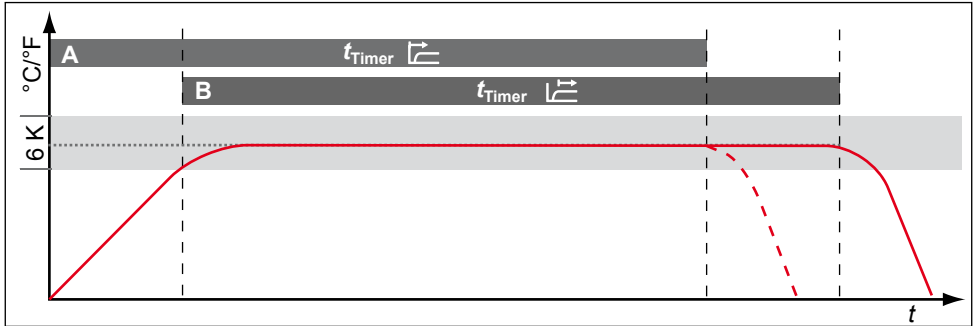

Fig. 22 Timer Mode
For universal ovens UN/UF and incubators IN/IF, you can choose whether the digital backwards counter with target time setting (see page 26) should run setpoint-dependent or not – this determines if the timer should not start until a tolerance band of $\pm 3\text{ K}$ around the set temperature is reached (Fig. 22, B) or if it should start right after activation (A).